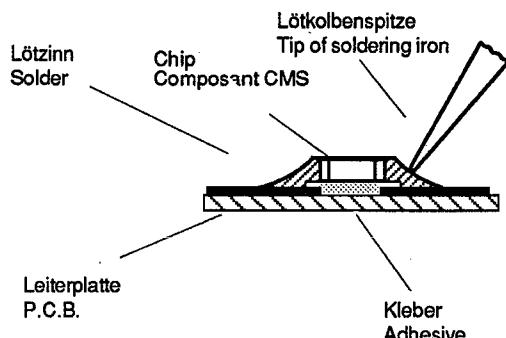

Fig. 1
1. Clean the CHIP soldering point with a solder wick (Fig. 1).